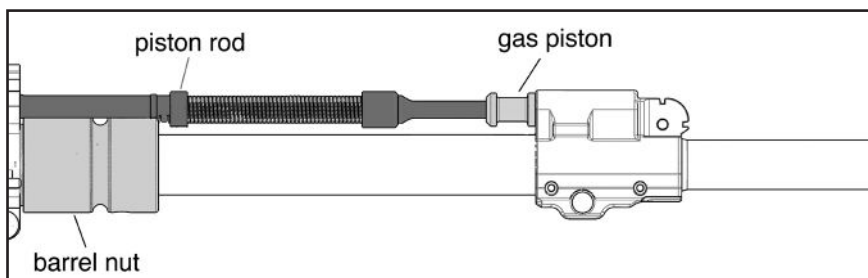

Fig. 82 – Lubrication of the Gas Piston, Piston Rod, and Barrel Nut Exterior
1. Apply a medium coat of lubricant on the gas piston and operating rod (Fig. 82)